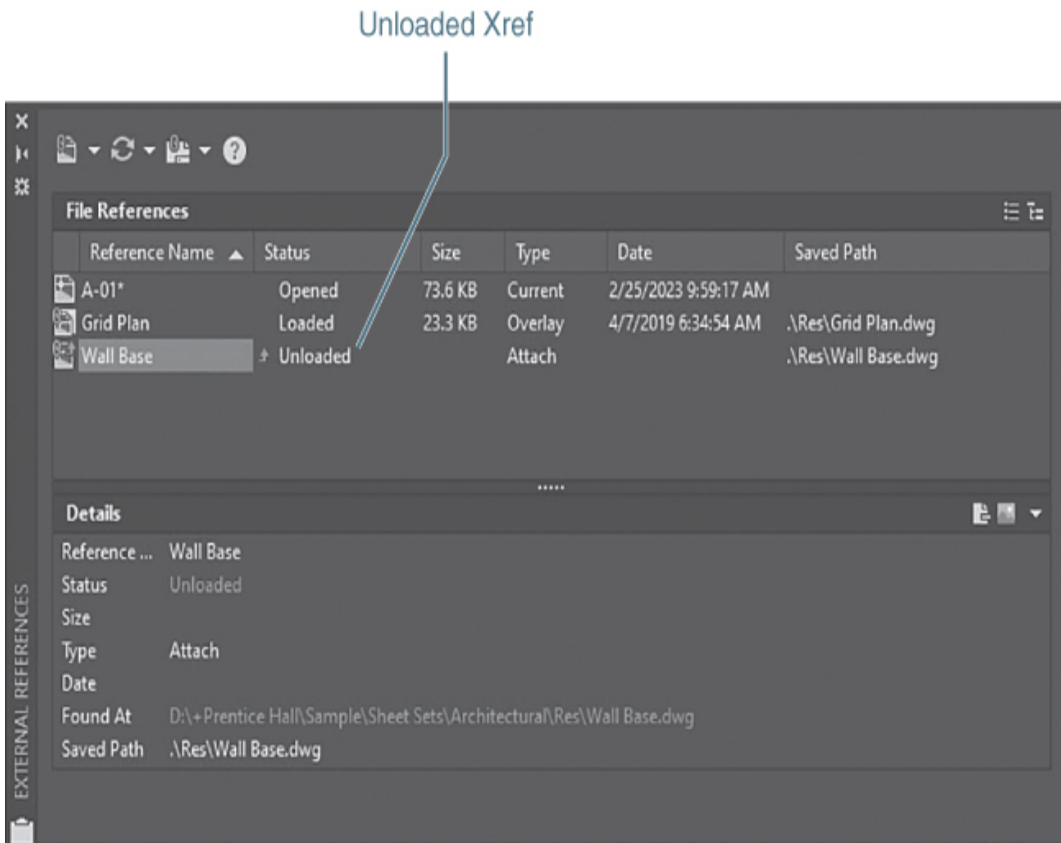

Figure 17-16
- 6** The **Wall Base** drawing is shown as unloaded but is still referenced in the drawing (see Figure 17-16). Select the **Wall Base** drawing, and choose **Reload** from the right-click shortcut menu. The status changes to **Loaded**.